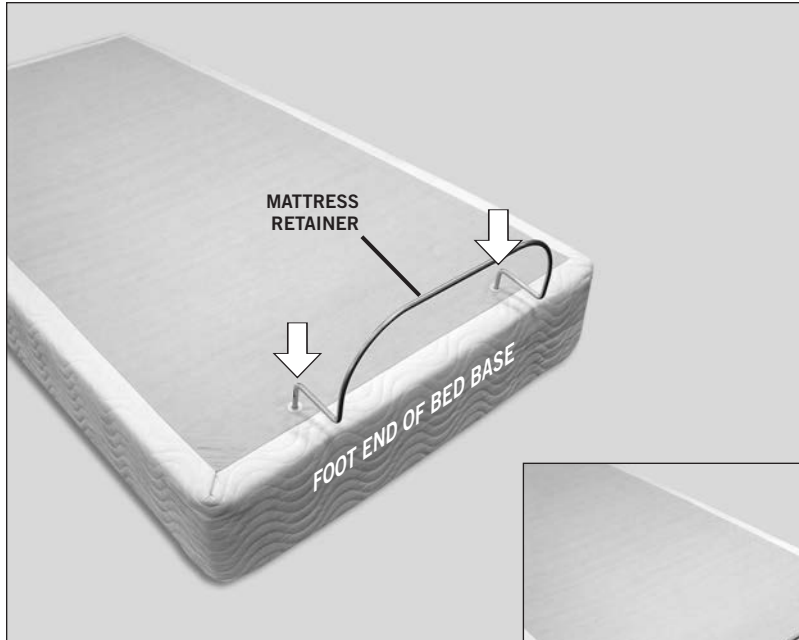

FIGURE 3: Mattress retainer installation.
- b. Place mattress retainer ends into grommets in top surface of adjustable bed base (**FIGURES 3 and 4**). Press down until horizontal retainer section is flush against bed base.